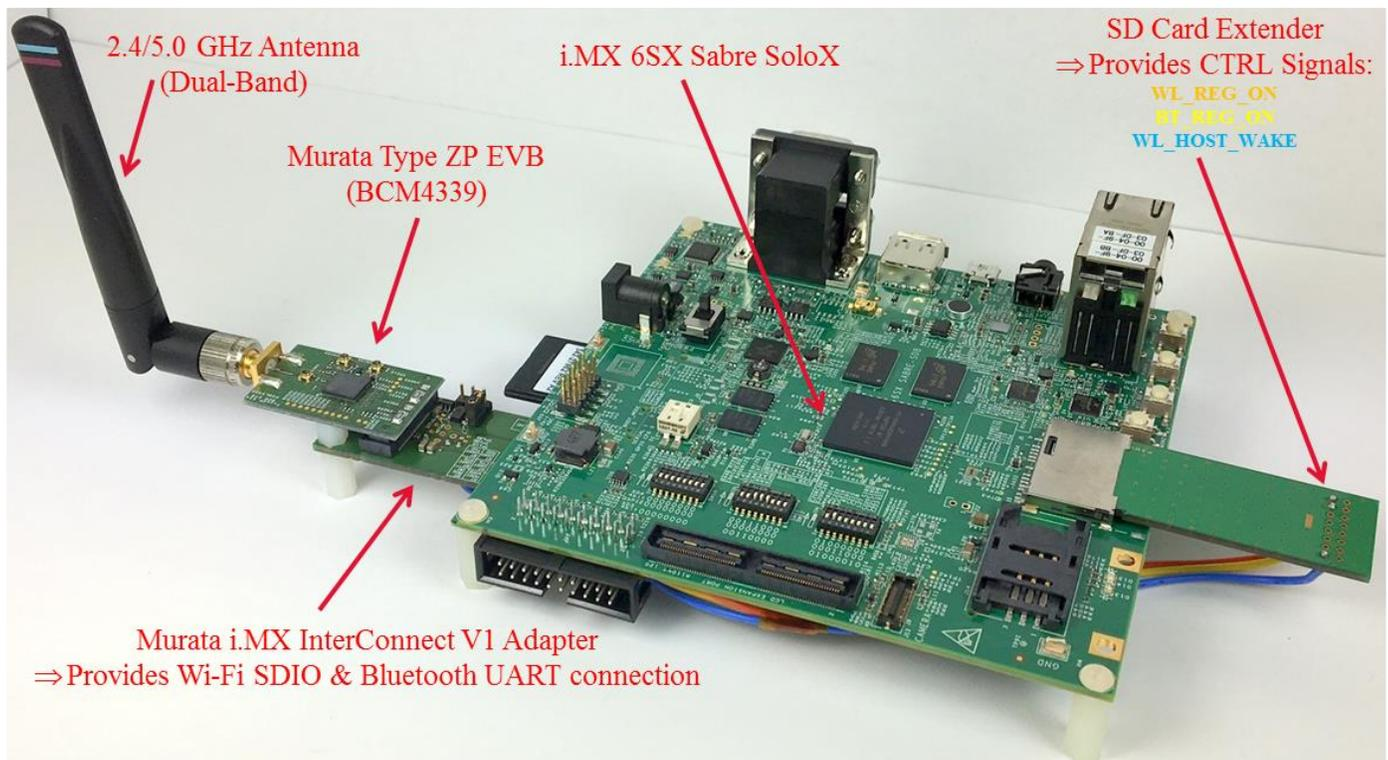

Figure 2: i.MX 6SoloX SABRE-SD with V1 Adapter and Type ZP EVB
| Figure 2: i.MX 6SoloX SABRE-SD with V1 Adapter and Type ZP EVB | 9 |
Referring to **Table 3**, the V1 Adapter is the default solution for this platform. No rework is required, Murata Wi-Fi/BT EVB is oriented right-side up, and it provides both Wi-Fi and BT functionality via SD3/SD2 slots: see **Figure 2** below.
- [3] Insert V1 Adapter board into SD3 slot and SD Card Extender into SD2 slot. Note the orientation as shown in **Figure 2**.